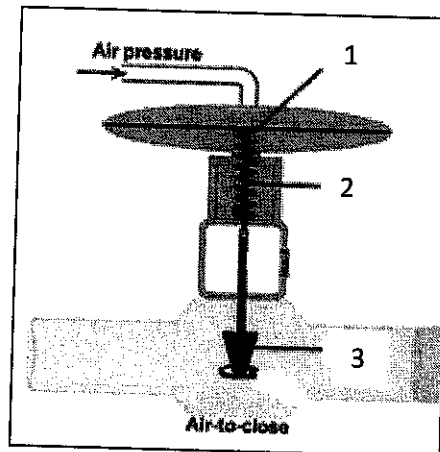

Figure B4(a)/Rajah B4(a)
- (a) Figure B4 (a) shows the Air-to-close valve. Name each part as numbered from 1 to 3.